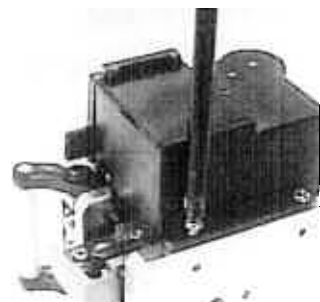

Fig. 19
- (iv) Align the screw holes of the cleaver and the fiber collector, and fix them with screws (refer to Fig. 19).